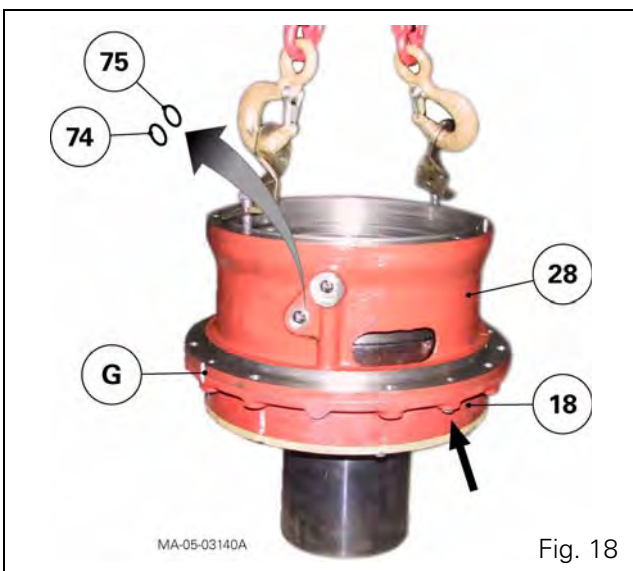
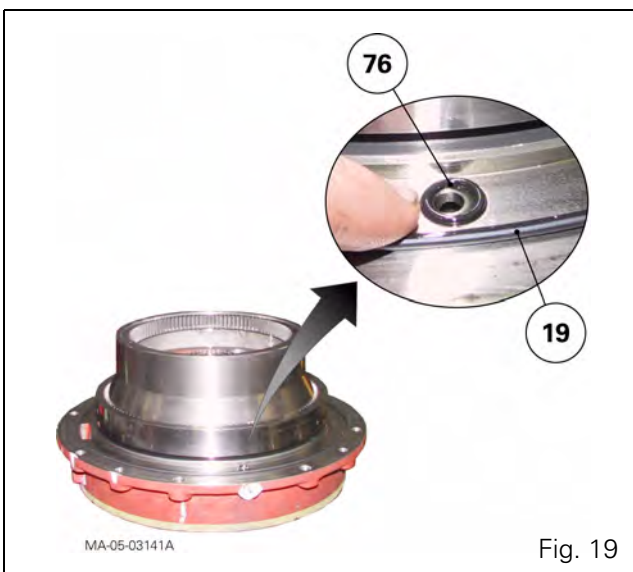

Fig. 18
Fig. 19
30. Place the front part of the Powershift module facing downwards on a suitable supporting fixture. Make a mark (G) on the housings (28) and (18) (Fig. 18).
31. Remove the screws from the housings (28) and (18) (arrow Fig. 18), then remove the housing (28).
32. Take out and discard the "O" rings (74) and (75) on the housing pilot ports. Discard "O" ring (19) and "O" ring (76) (Fig. 18 and Fig. 19).